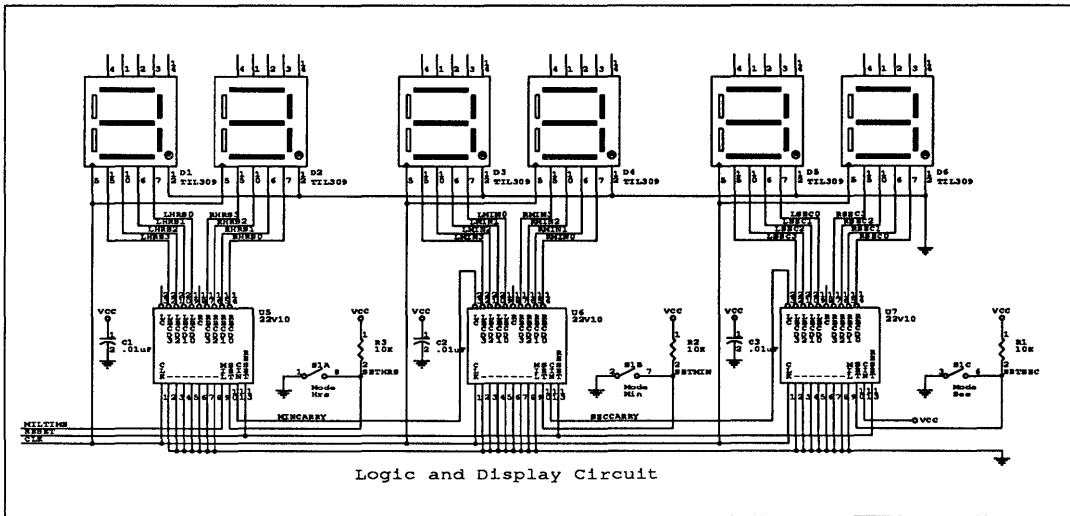
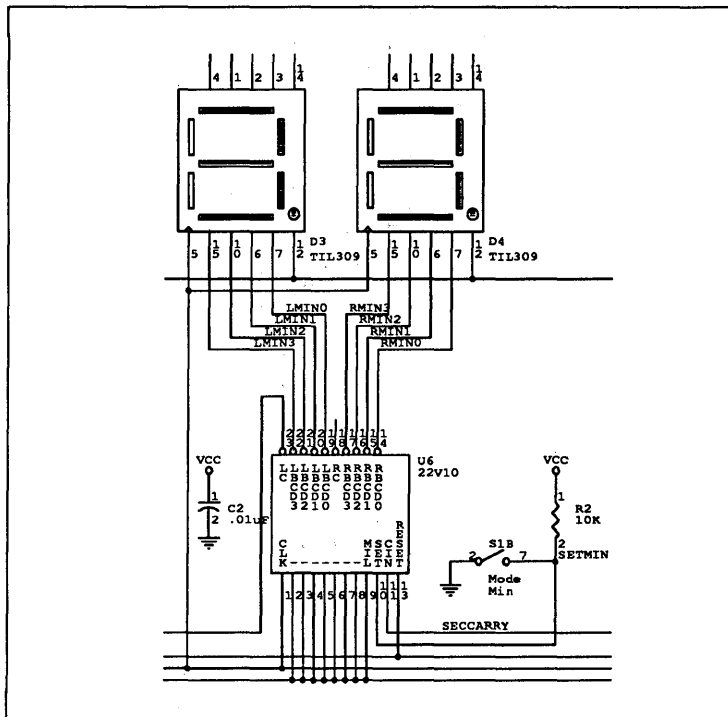

Figure 6-1. The logic and display circuitry.
Figure 6-2. The minutes circuit.
Figure 6-1 shows the portion of the schematic you capture in this chapter.
As you look at the schematic of the logic and display circuitry in figure 6-1, it becomes apparent that three regions are nearly identical—seconds, minutes, and hours. Take advantage of this duplication by creating the schematic for the minutes area (figure 6-2), and copying it to create the other areas.
The display and logic circuit shown in figure 6-1 contains so much detail that your immediate task of capturing the minutes area seems more difficult than it really is. Figure 6-2 shows only the components and wires associated with the Minutes area of the schematic. Compare figure 6-2 with figure 6-1 to see the similarities in each of the areas and then follow the steps below to build the minutes circuit.
5. Select **Rotate** to change the part orientation to match the part orientation shown in figure 6-2.
2. Referring to figure 6-2, move the pointer to the bottom of the resistor symbol and select **PLACE Wire Begin** to start drawing a wire.
1. Referring to figure 6-2, place the wires between the 22V10 component and the right-hand seven segment display as shown. To begin a new wire, instead of issuing the <P><W> commands, just press the <F1> key. Then proceed as usual.
2. Continue using the macro and place the wires between the 22V10 component and the left-hand seven segment display as shown in figure 6-2.
3. Select **REPEAT** six more times to place the remaining wires of this length shown in figure 6-2.
4. Draw a single horizontal wire along the bottom of these wires as shown in figure 6-2.
1. Using **PLACE Power** and **Place**, put power symbols above the resistor and capacitor symbols, as shown in figure 6-2.
4. Place the remaining wires shown in figure 6-2.
5. Place junctions at the remaining locations shown in figure 6-2.
6. Examine your worksheet and carefully compare it with the schematic in figure 6-2. The exact position of objects is not as important as the presence or absence of these objects.